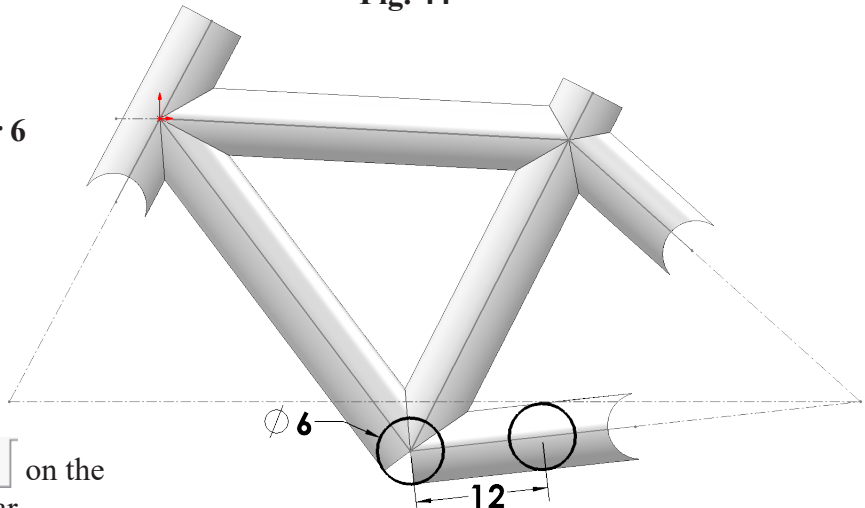

**Fig. 44**
Step 6. **Ctrl click both circles** to select both. Release Ctrl key and click **Make Equal** on the context toolbar, **Fig. 44.**